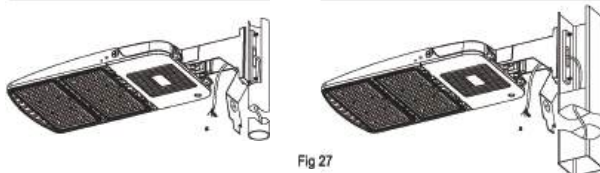

Fig 27
4. Install the fixture onto the bracket, and then tighten the bolts with a wrench, as shown in Fig. 27.